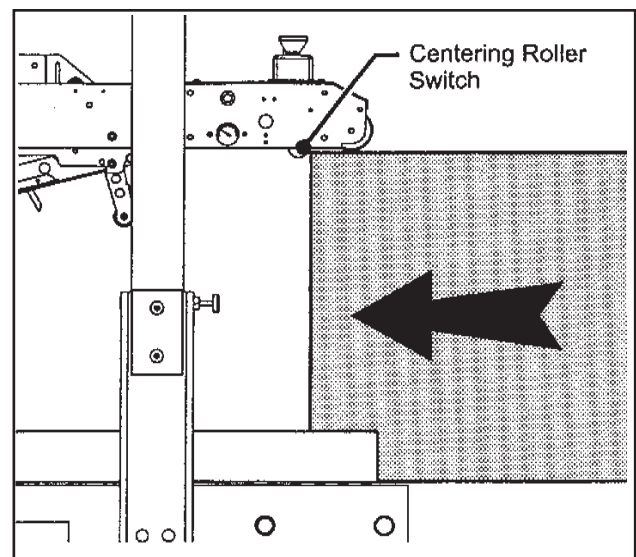

Figure 3-8 – Operation
4. Box is then pushed under belt centering roller switch (**Figure 3-8**), which closes drive belts and conveys box through machine.